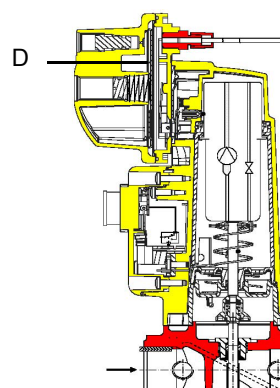

Fig. 7
**Caution:** the SKP2 diaphragm *D* must be vertical (see Fig. 7).